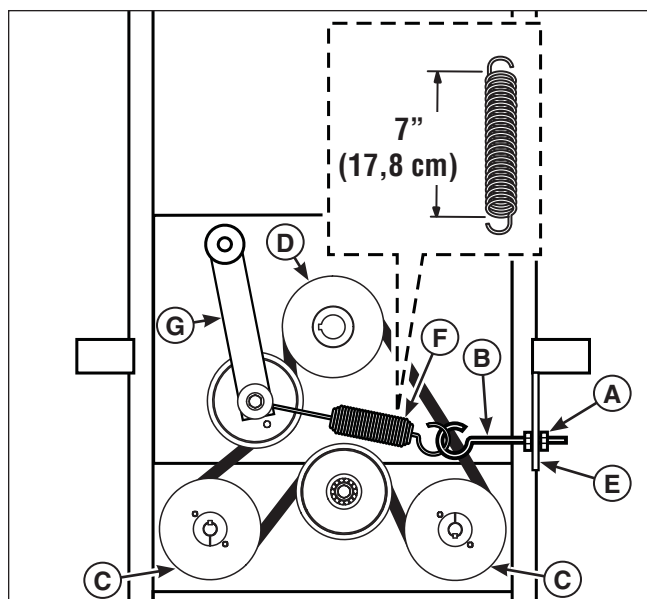

Figure 49. Pump Drive Belt Routing
6. Loosen the nut (**A**, **Figure 49**) on the spring anchor eyebolt (**B**) to release the majority of the belt tension. Use caution and remove the nut to completely release the tension.